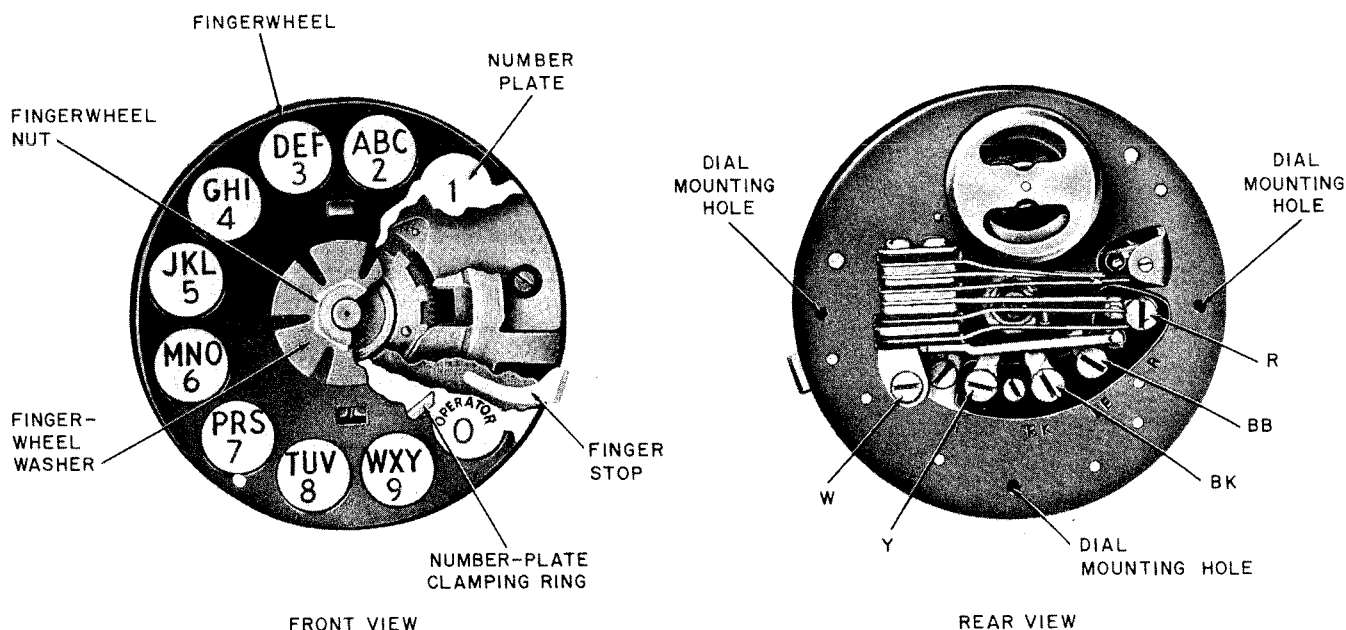
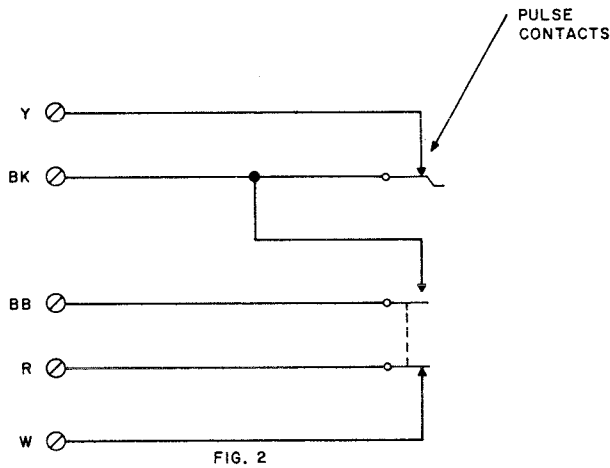

Fig. 1—5M-3 Dial
Fig. 2 — 5M-3 Dial Contact Schematic
2.01 Intended for use with 5300-type telephone sets. See Fig. 1 and Table A for assembly of parts, and Fig. 2 for schematic.